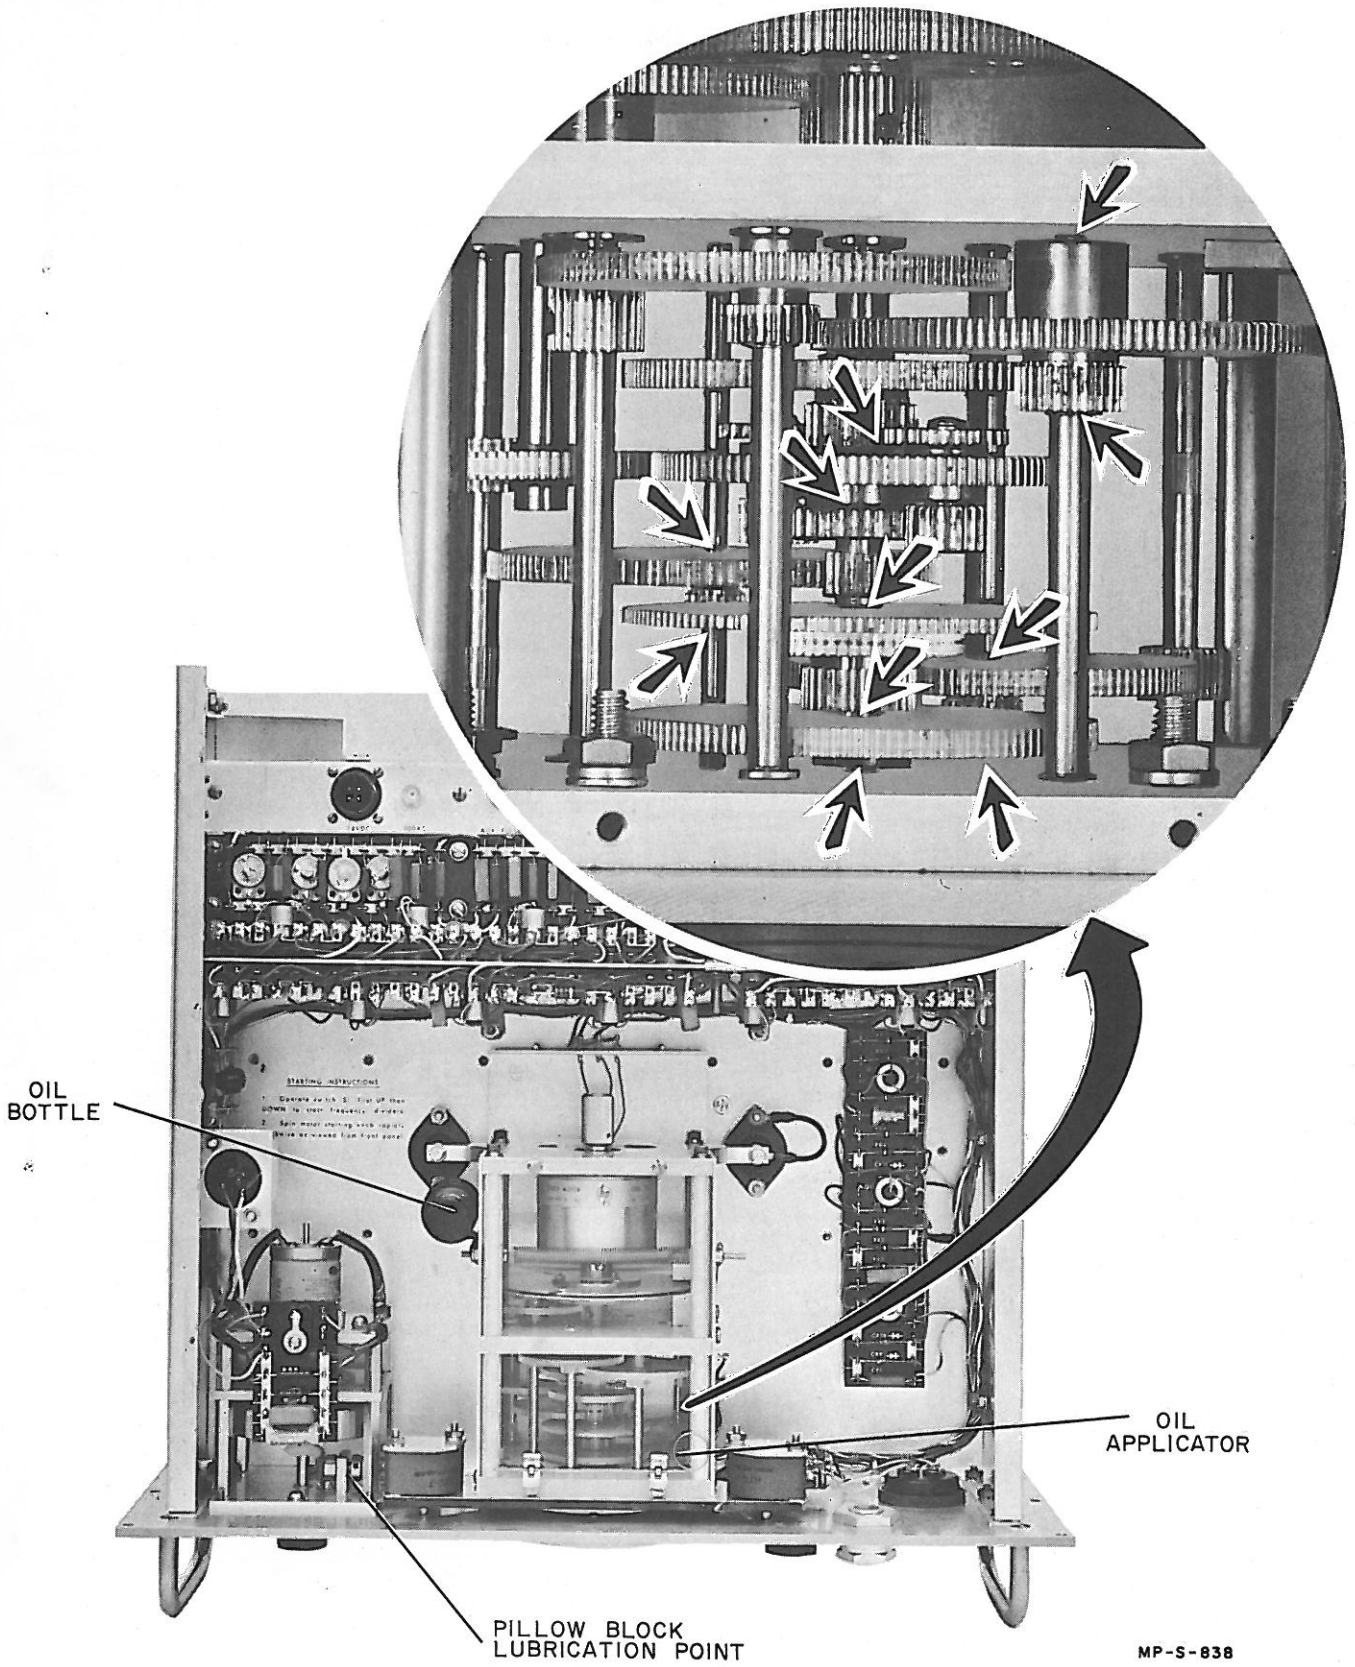

Figure 4-1. Lubrication Points
d. Apply one drop of oil to each of the lubrication points shown in figure 4-1. There are 11 points in the gear box and 1 point on a bearing behind the TIME REFERENCE indicator.